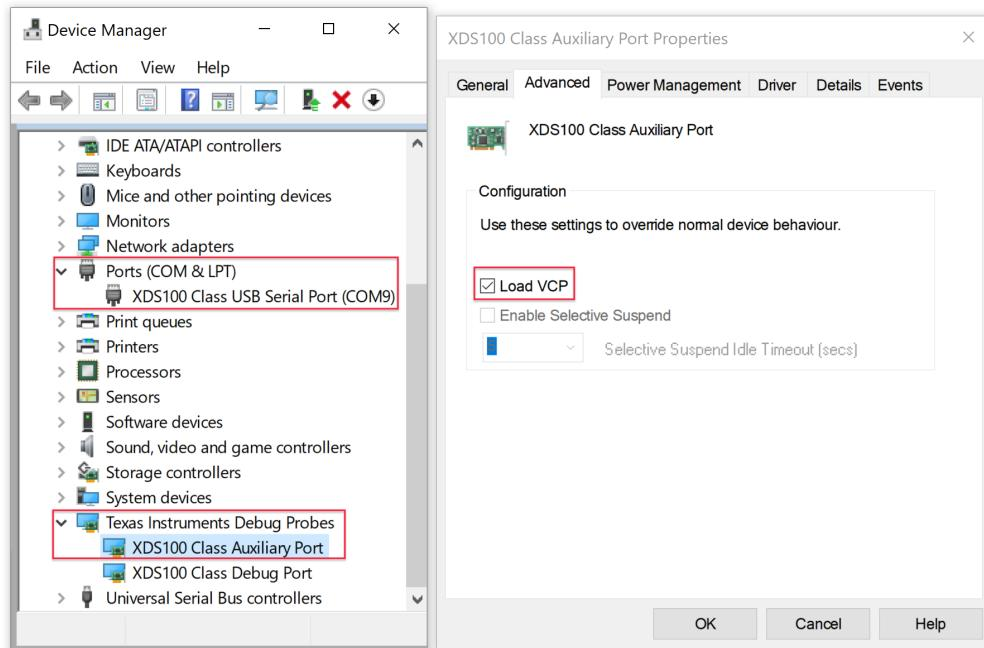

Figure 1.2: Configuring Load VCP
- 1 If you're using the Windows operating system, open the **Device Manager** and verify that the “Load VCP” port of the “XDS100 Class Auxiliary Port” under “Texas Instruments Debug Probes” is enabled (unplug the MCU from the computer and replug if necessary). If configured correctly, the appropriate auxiliary port should show up under “Ports”, as shown in Figure 1.2.